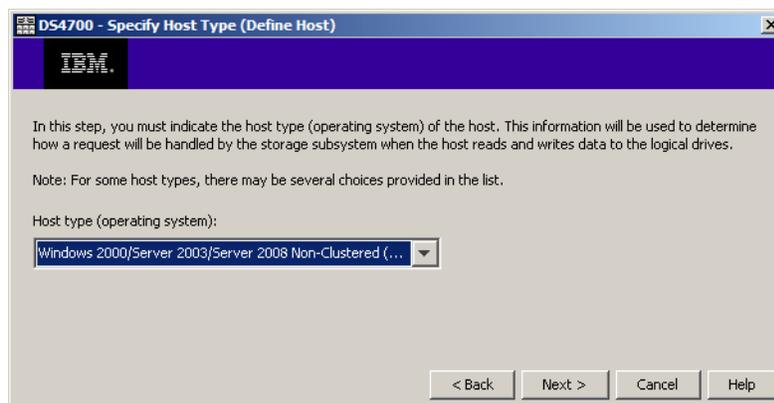

Figure 10-23 Specify host type
4. Identify and select the correct host type. The host type should be Windows 2000/Server 2003/Server 2008 non-clustered (supports DMP) because we want to have auto volume transfer (AVT) enabled for boot path protection, as shown in Figure 10-23.